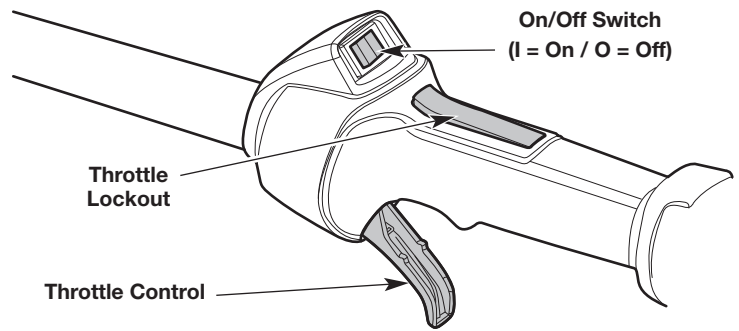

Fig. 9
NOTE: There is no need to turn the unit on. The On/Off switch is in the **On (I)** position at all times (Fig. 9).
4. Press and hold the throttle lockout. Squeeze and hold the throttle control (Fig. 9).
2. Press and hold the On/Off switch in the **Off (O)** position until the engine comes to a complete stop (Fig. 9).